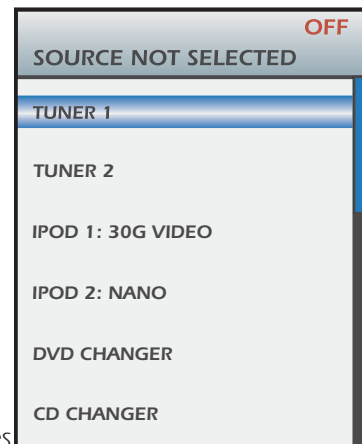

Figure 31
1. **Press** the **Zone Power Off Key** for less than 2 seconds. A red **OFF** and the message: "**Source Not Selected**" will appear at the top of the LCD. (Refer to **Figure 31**) Unless the local zone is the last zone to be turned off, the zone will turn off and the common sources will stay on. If the local zone is the last zone to be turned off the common sources will turn off as well.